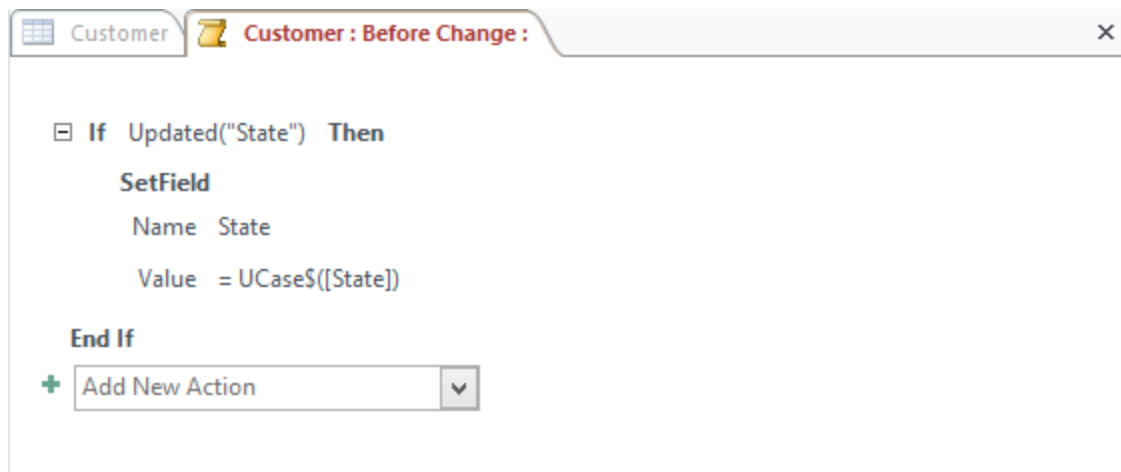

Figure 55: Final *Before Change* Data Macro
5. View the Final *Before Change* Macro: Compare your macro to Figure 55 to ensure that your macro has been correctly specified. Make sure that the *SetField* action is nested inside the *If* action as shown in Figure 55.